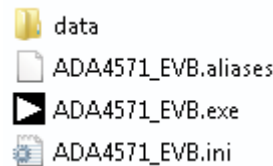

Figure 4. Place Downloaded Files on the PC
1. Place the downloaded executable file and supporting files in a convenient location for use (see Figure 4). It is recommended to place these files on the root C drive of the PC. Do not separate the executable file from the other files that are downloaded or the executable file cannot run.